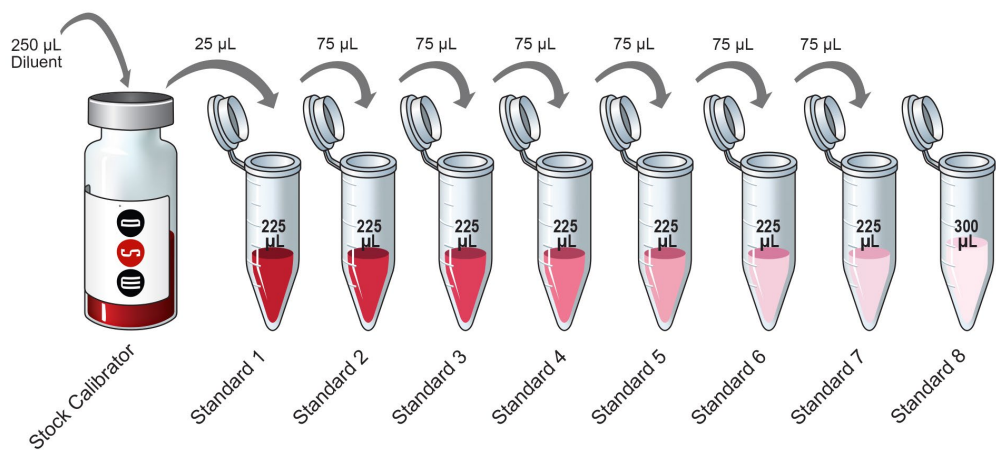

Figure 5. Dilution schema for U-PLEX calibrator standards for singleplex assays.
The following instructions are for the preparation of 7 Calibrator Standard solutions plus a Zero Calibrator Standard for use in an 8-point standard curve (Figure 5; Table 9).
- ❑ Prepare Calibrator Standard 1 by adding 25 µL of the reconstituted Calibrator to 225 µL of Assay Diluent (Figure 5). Mix by vortexing.